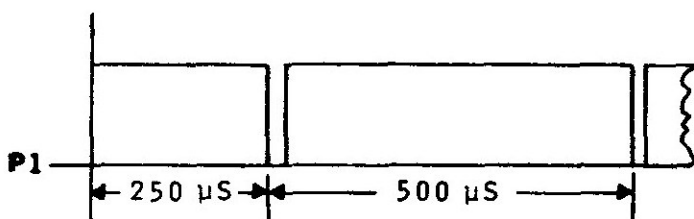

Figure 5-5. Angle Mode Clock Waveform
- c. Adjust scope for negative-going clock pulses. Increase sweep speed to observe first two clock pulses. (Disregard any pulse seen at very beginning of sweep.) The time from the beginning of sweep to the first pulse is approximately 250  $\mu$ s (fig. 5-5) and the time from the first to second pulse is about 500  $\mu$ s. Measure and record the exact time between the first and second pulses.